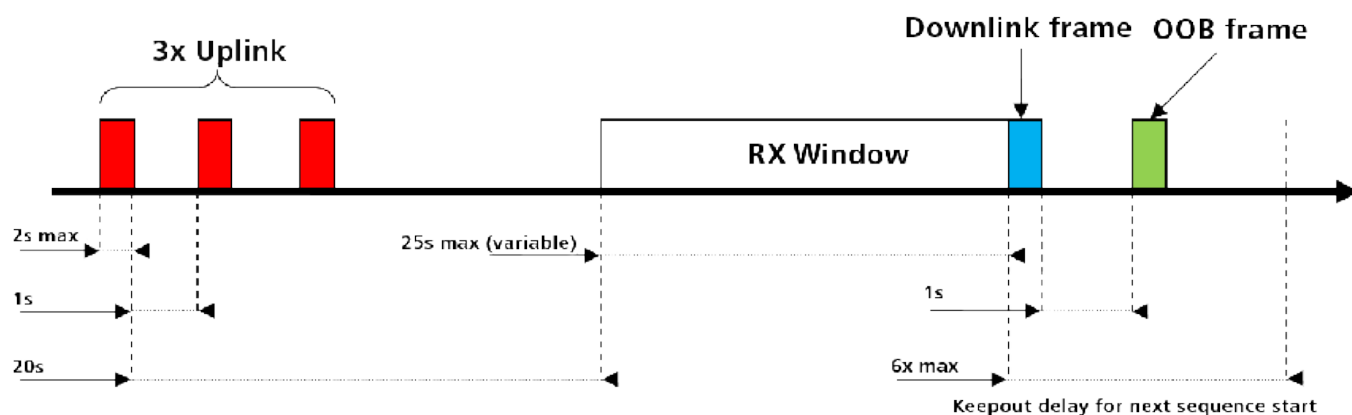

Figure 6 : Uplink 1
- 3 emissions on a variable frequency (Figure 6, 7 et 8)